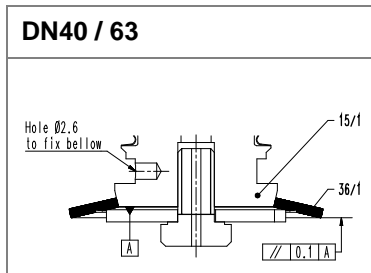

Figure 7-2
When loosening and tightening the screw (64) protect the bellows against torsion by hole or wrench size; see «Figure 7-2» on page 22.
6. Remove the screw (64).
7. Remove holding ring (60).
15. Protect bellows against torsion by hole or wrench size; see «Figure 7-2» and tighten screw (64) with the following torque: